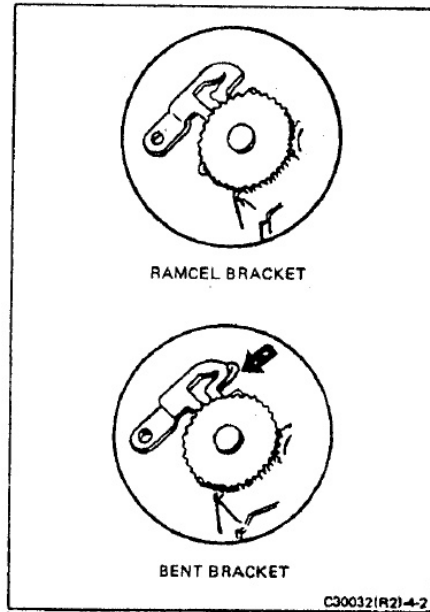

FIGURE 4-2 COMPARISON OF SPREAD ROLL BRACKETS
- b. Two vendors produce the spread system assembly bracket. (see Figure 4-2). One vendor, Ramcel, makes the bracket with a retainer area which is not bent. The other vendor makes the bracket with a bent retainer area. Most of the loose front cover problems occur with the bent retainer area. Therefore, a simple solution is to replace the front cover or a spread system sub-assembly with one containing a Ramcel spread roller bracket. However, before doing this, try the repair procedure called out in paragraph c, below. (Do not scrap the original front cover since it is still usable on other cameras.)
- (1) Open the front cover.
- (2) Remove the gear train cover.